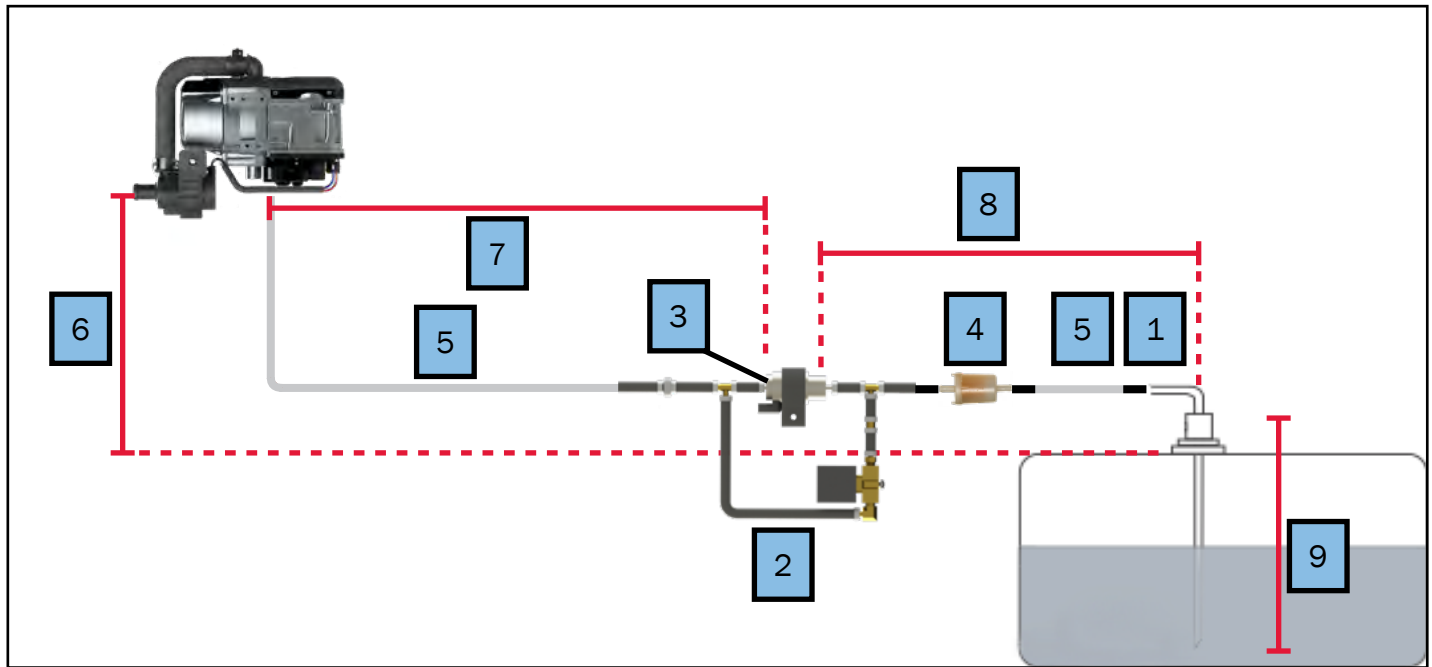

Figure 91
- The fuel line should not be descending from the fuel pump to the burner - see Figure 91.